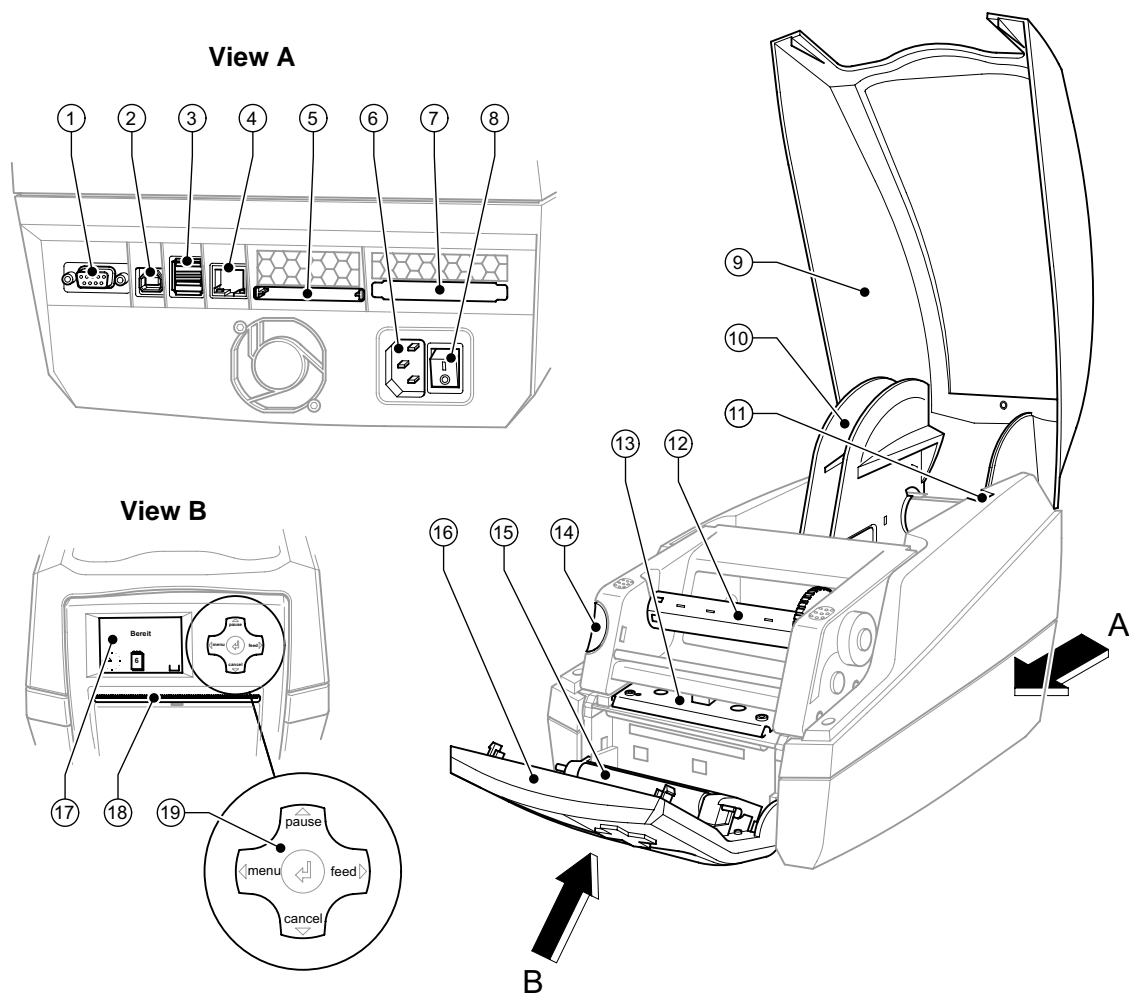

Fig. 1: Overview
Item numbers in a text are shown in brackets e.g. (5). If a figure number is not stated, the item numbers in the text always refer to the nearest figure above the text. If a reference is made to another figure, the figure number is also stated, e.g. Fig. 1 (8).
The standard available interfaces and connectors are shown in figure 1 Overview, view A.
⇒ Switch the printer on at the power switch Fig. 1 (8).
The printer performs a system test, and then shows the system status "**ready**" in the display, Fig. 1 (17).
⇒ Switch the printer off at the power switch Fig. 1 (8) after finishing work.